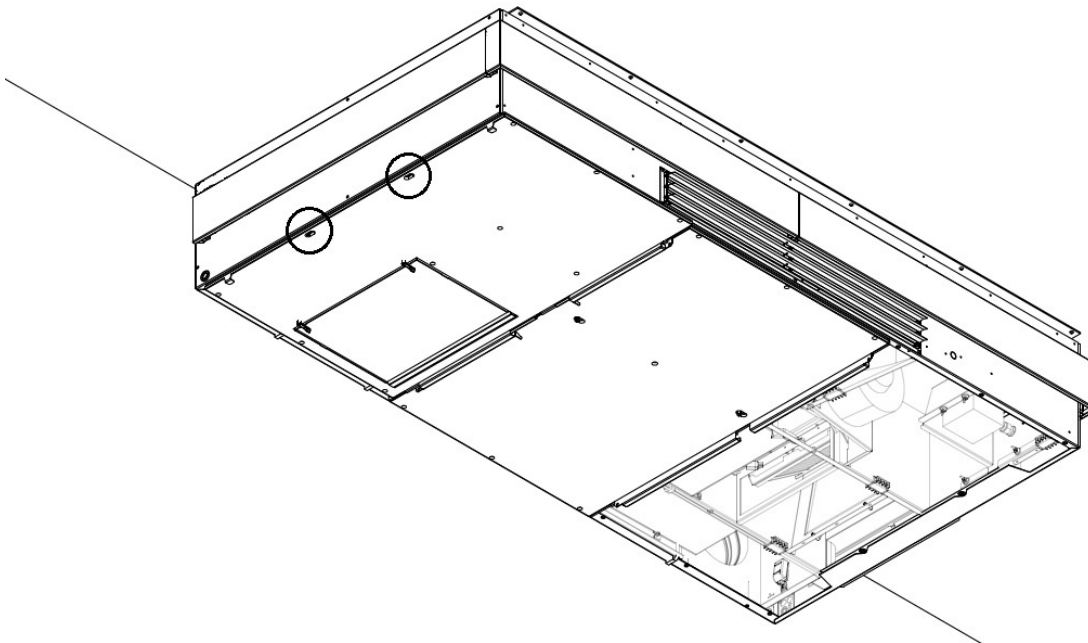
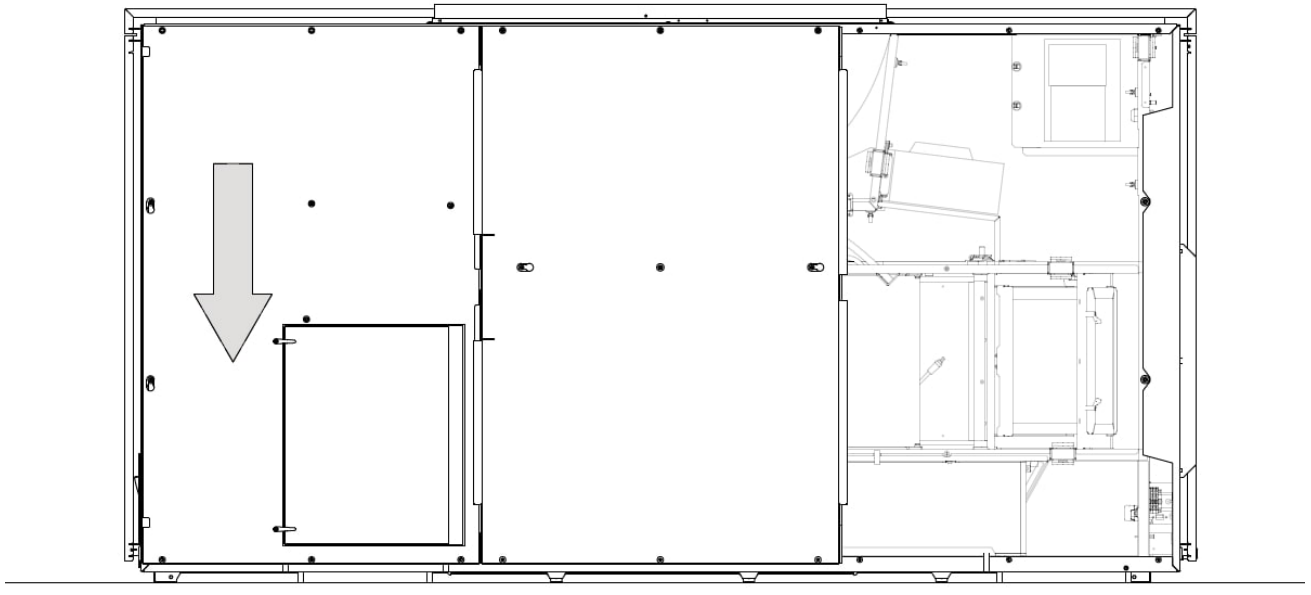
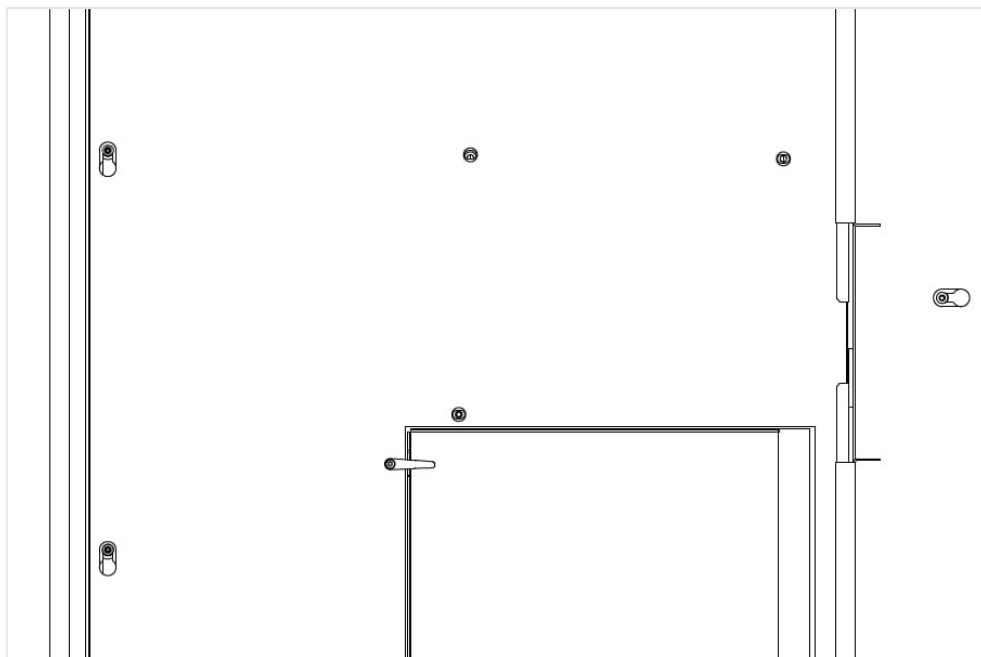

Figure 40: Keyhole on left-hand steel plate
Figure 41: Push steel plate toward the wall
Figure 42: Steel plate locked into the narrow part of the keyhole
7. Next you lift the plate up and onto the bolts you mounted in step 5. Just as before, the bolt heads must go into the round part of the keyhole, then push the plate toward the wall, locking the plate into the narrow part of the keyhole, see Figure 40, Figure 41, and Figure 42.